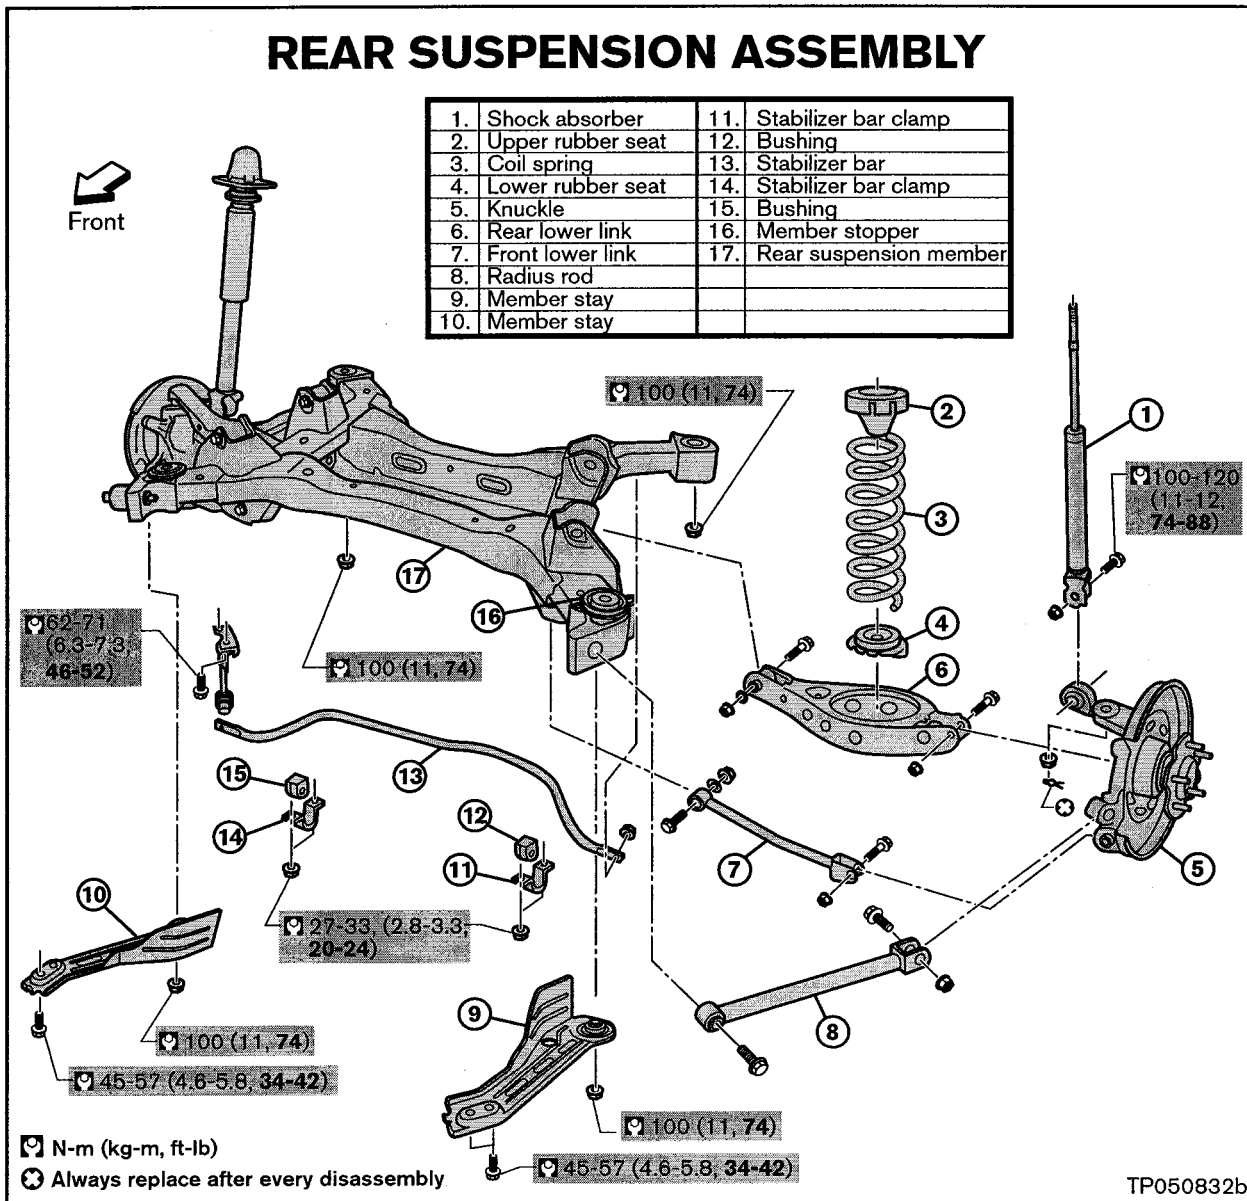

Figure D3
- Re-torque all fasteners to specification (see Figure D3).